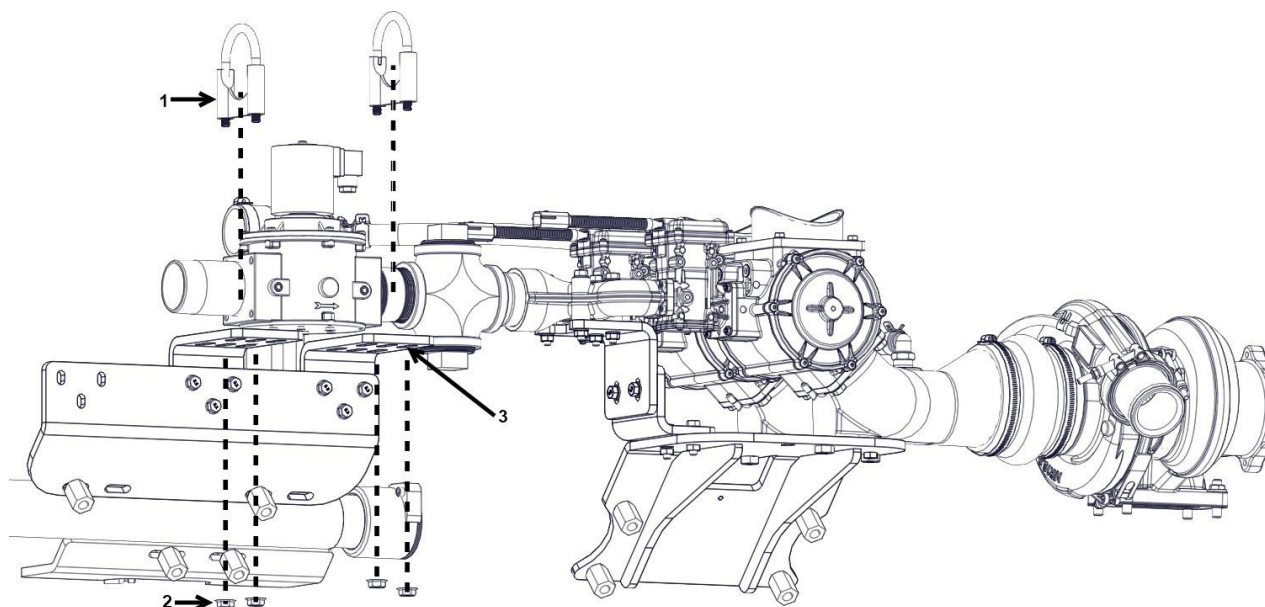

Figure 35. Upper Lock off Bracket Assembly
6. Remove the four nuts directly below the “U” clamps bolts and the upper lock off bracket. (Refer to Figure 35.)